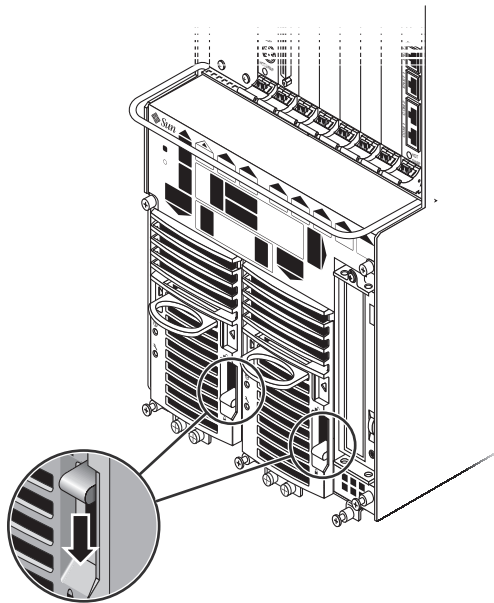

FIGURE 7-1 Locating the Power Supply Locking Mechanism on the Netra CT 810 Server
1. Verify that the power supply locking mechanisms on the server you are about to power on are in the locked (), or down, positions (FIGURE 7-1).
7. If you want to completely power off the Netra CT server, push the purple power supply unit locking mechanisms up into the unlocked (⏏) position (see FIGURE 7-1).
6. **If you want to completely power off the Netra CT server, push the purple power supply unit locking mechanisms up into the unlocked (Ⓛ) position (see FIGURE 7-1).**